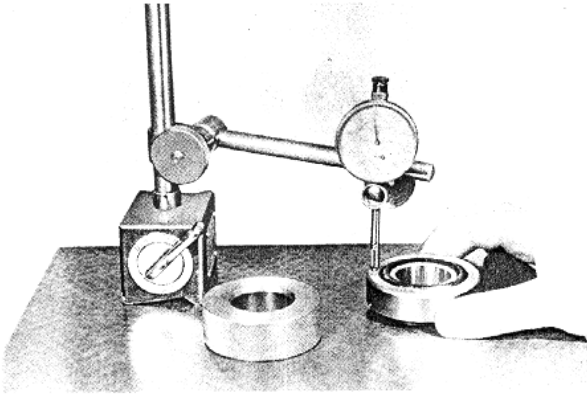

Fig. 9-25 Measuring bearing height
7. Place the bearing model and the rear pinion bearing on the surface plate and compare their heights as shown in Fig. 9-25.